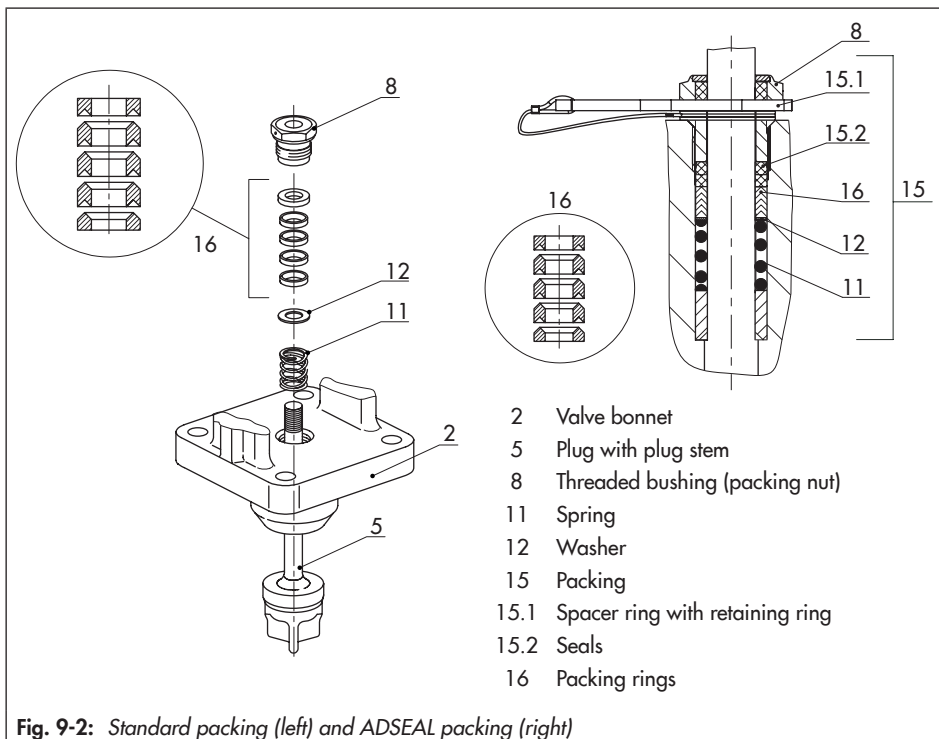

Fig. 9-2: Standard packing (left) and ADSEAL packing (right)
11. Carefully slide the packing parts over the plug stem into the packing chamber using a suitable tool. Observe the proper sequence (see Fig. 9-2).
12. Firmly press the plug (5) into the seat (4). Fasten down the flange (2) with the body nuts (14). Tighten the nuts gradually in a crisscross pattern. Observe tightening torques.
13. Screw in the threaded bushing (8) and tighten it. Observe tightening torques.
14. Loosely screw the lock nut (10) and stem connector nut (9) onto the plug stem.
- Spring (11)
- Washer (12)
- Packing rings (16)
4. Insert the red spacer ring (15.1) between the threaded bushing (8) and retaining ring. See Fig. 9-2.
9. Carefully slide the packing parts over the plug stem extension into the packing chamber using a suitable tool. Observe the proper sequence (see Fig. 9-2).
10. Fasten the valve bonnet with nuts (33) and bolts (32). Observe tightening torques.
11. Screw in the threaded bushing (8) and tighten it. Observe tightening torques.
12. Loosely screw the lock nut (10) and stem connector nut (9) onto the plug stem.
- 4. Insert the red spacer ring (15.1) between the threaded bushing (8) and retaining ring. See Fig. 9-2.
14. Carefully slide the packing parts over the plug stem into the packing chamber using a suitable tool. Observe the proper sequence (see Fig. 9-2).
15. Firmly press the plug (5) into the seat (4). Fasten down the flange (2) with the body nuts (14). Tighten the nuts gradually in a crisscross pattern. Observe tightening torques.
16. Screw in the threaded bushing (8) and tighten it. Observe tightening torques.
17. Loosely screw the lock nut (10) and stem connector nut (9) onto the plug stem.